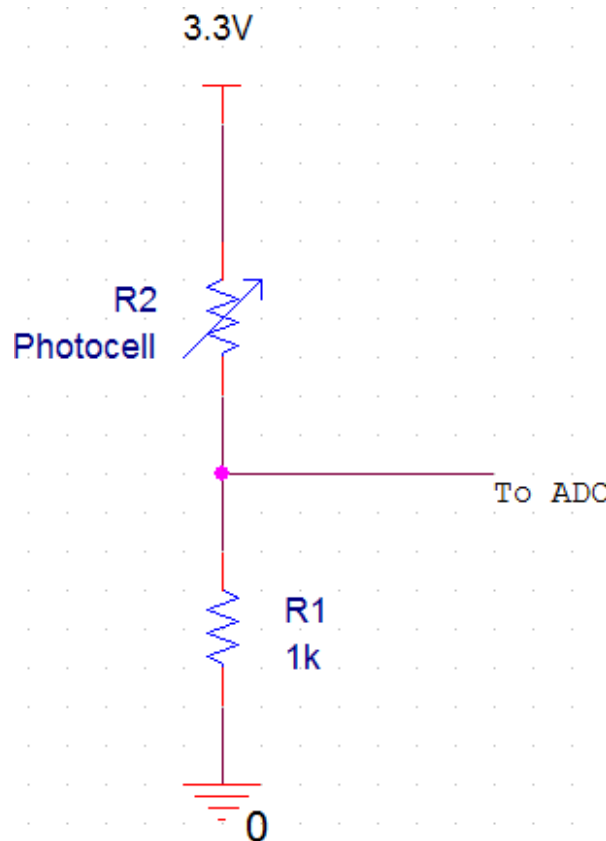

Figure 5.2: Photocell Circuit
7. On the breadboard create the simple circuit shown in Figure 5.2. Both power and ground can be provided from the MSP432 **in this case**.